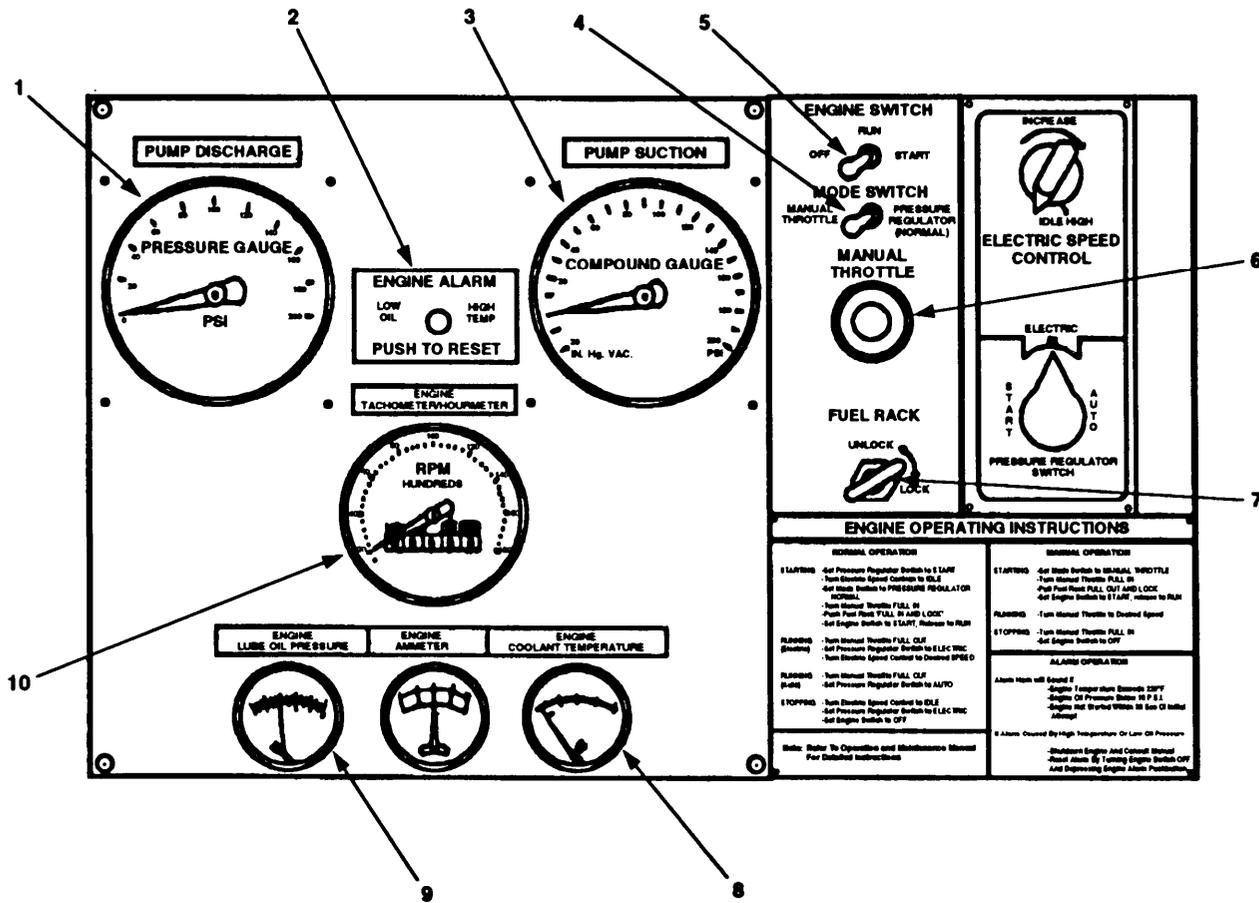

Figure 2-19. Model 609-A Controls Used for Manual Operation.
2.5.1.1 Manual Mode. Before starting Model 609-A, make sure that the pump has been primed (paragraph 2.4.1 or 2.4.2). Refer to Figure 2-19 and start and operate Model 609-A as follows:
- b. Pull out MODE SWITCH (4) to unlock and set to MANUAL THROTTLE position.
- c. Turn MANUAL THROTTLE (6) clockwise until it is full in.
- d. Turn FUEL RACK handle (7) counterclockwise to UNLOCK position. Pull handle fully out and turn clockwise to LOCK position.